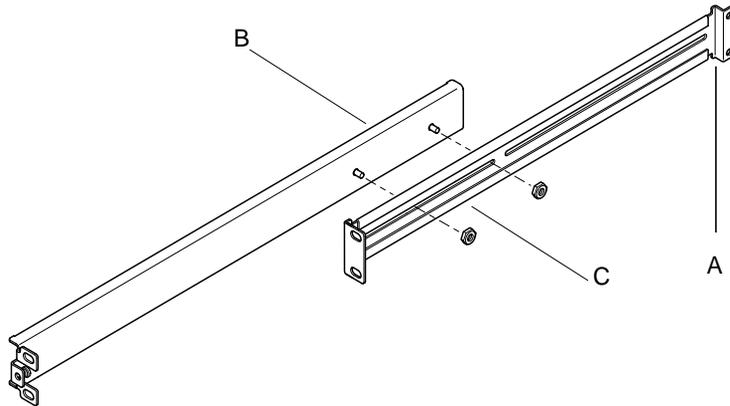
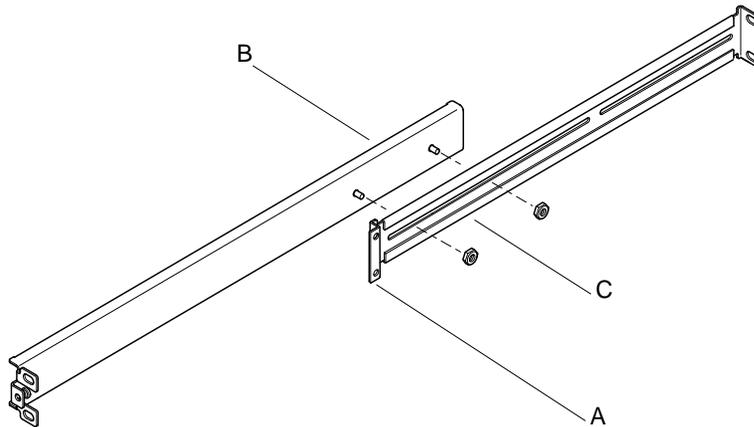

FIGURE 3-2 Assembling an Adjustable Bracket for a Sun 72-inch Expansion Cabinet or Sun Fire Expansion Cabinet
FIGURE 3-3 Assembling an Adjustable Bracket for a Sun Rack 900 or Standard 19-inch Rack or Cabinet
- a. For a Sun StorEdge 72-inch expansion cabinet or a Sun Fire expansion cabinet, position the double-angled end (A) of the slotted piece (C) at the back, with the screws on the smooth piece (B) extending through the shorter slot of the slotted piece (FIGURE 3-2).
- b. For Sun Rack 900 and other industry standard 19" racks or cabinets, position the double-angled end (A) of the slotted piece (C) towards the front, with the screws on the smooth piece (B) extending through the longer slot of the slotted piece (FIGURE 3-3).
As shown in FIGURE 3-2 and FIGURE 3-3, the nuts are attached from the side of the bracket that faces the rack's posts (C).